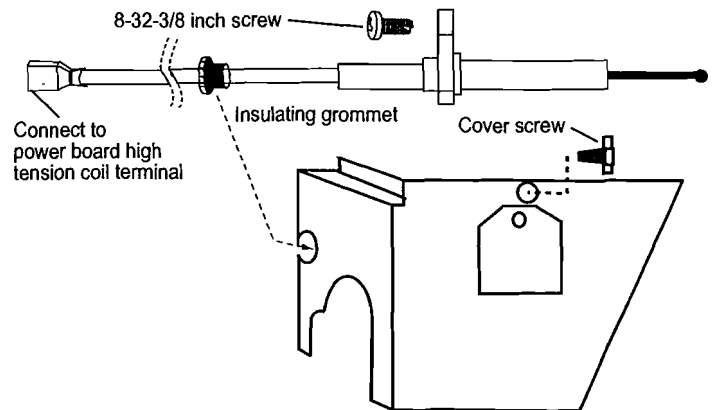

Figure 18. Gas valve connections and screws.
1. Make sure the spark/sense electrode wire passes through burner box cover insulating grommet. See Figure 18.